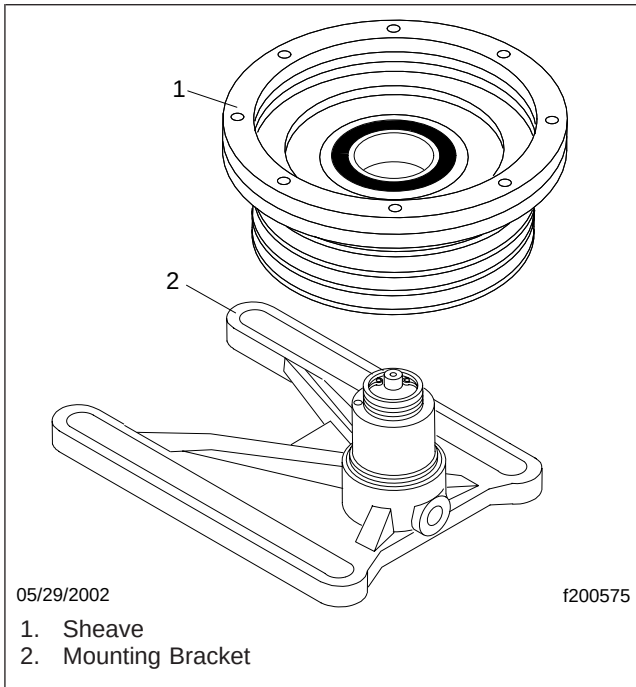

Fig. 8, Removing the Sheave
21. Remove the sheave from the mounting bracket. See Fig. 8.
- 2.3 Slide the sheave onto the mounting bracket. See Fig. 8.